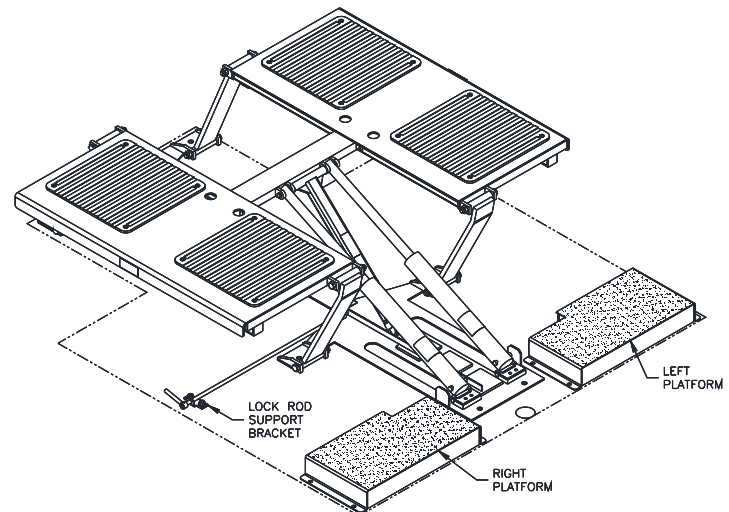

Fig. 4 Flush Mount Installation
17. For **Flush Mount only**, slide lock rod support bracket over free end of lock rod before the handle is attached to the end, See **Fig. 4**. Also shown in *Parts Breakdown at the end of this manual*.